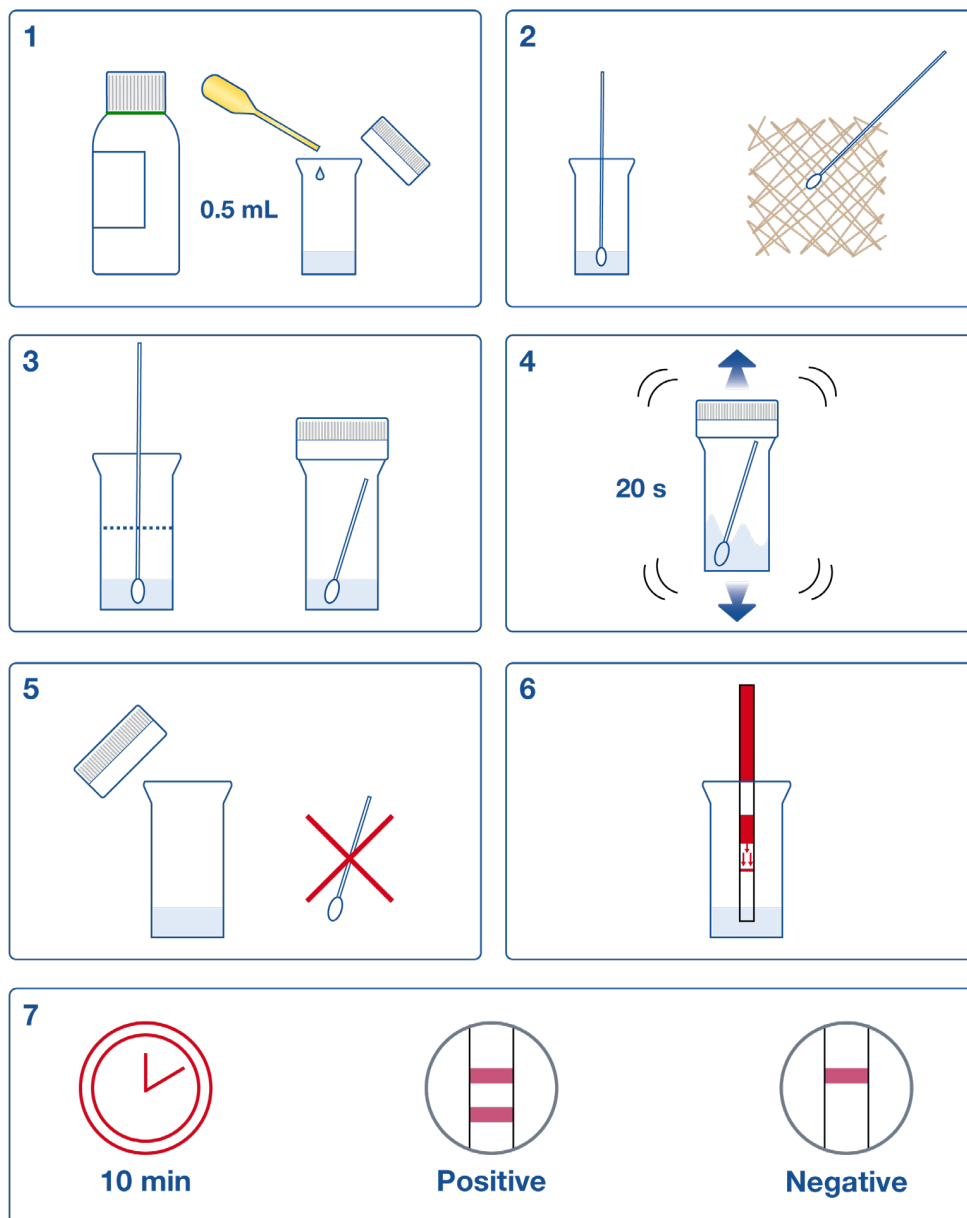

Figure 2. Test procedure for surfaces
- 9.2. Add 0.5 mL of extraction solution to one of the provided extraction tube. Moisten the tip of the swab with the solution, press it firmly against the chosen surface and rub it in a zigzag pattern, while rolling the swab during the process (Fig. 2). The area selected for analysis must be representative of the total area of interest.